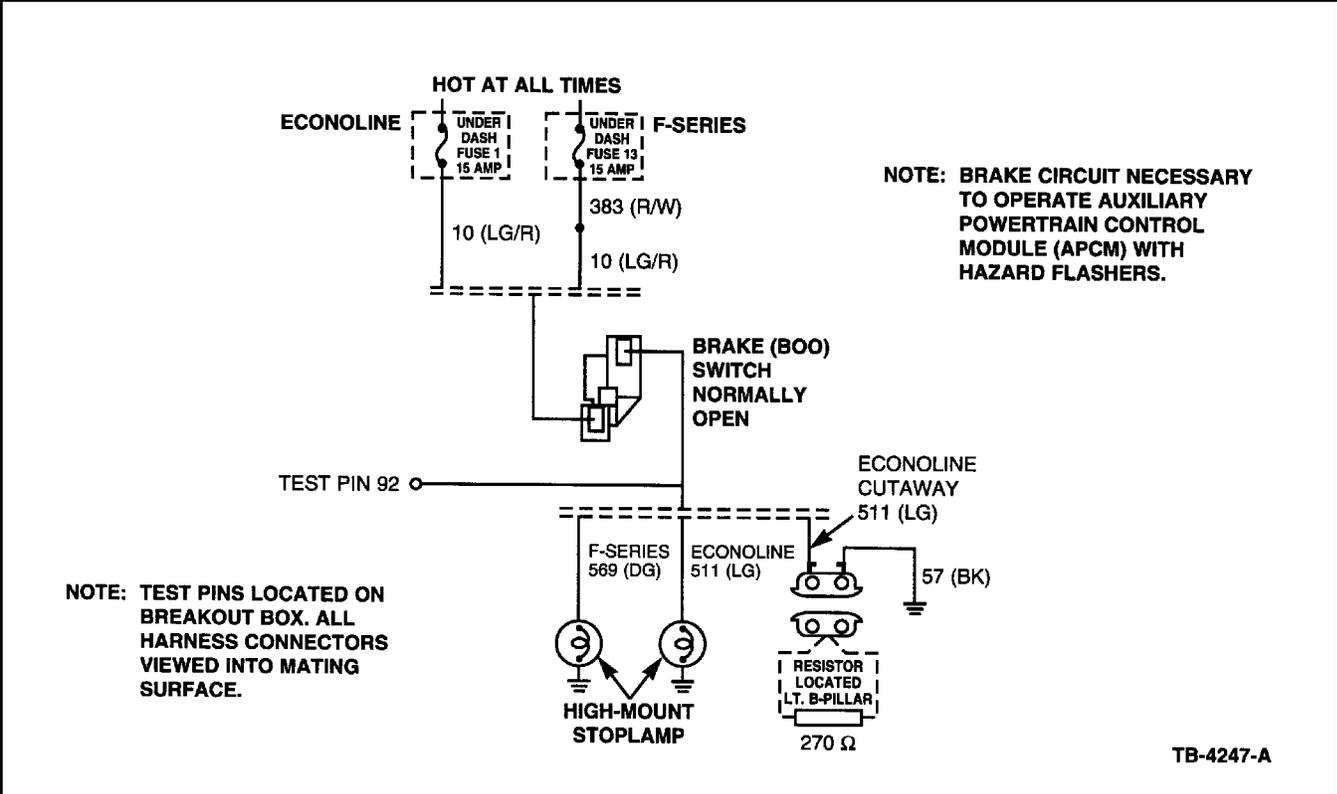

Figure 1 - Article 95-15-13
- a. Depress service brake pedal. If Econoline or F-Series Cargo/High-mount Stoplamp does not come on, replace bulb or repair open in either fuse, F-Series Circuit 569 (DG) or Econoline Circuit 511 (LG) or ground (Figure 1).
- Using a Digital Volt-Ohm Meter (DVOM), measure voltage between Circuit 511 (LG) and Circuit 57 (BK) on the resistor connector (Figure 1).
- If voltage is not present, repair open in Circuit 511 (LG) or 57 (BK).